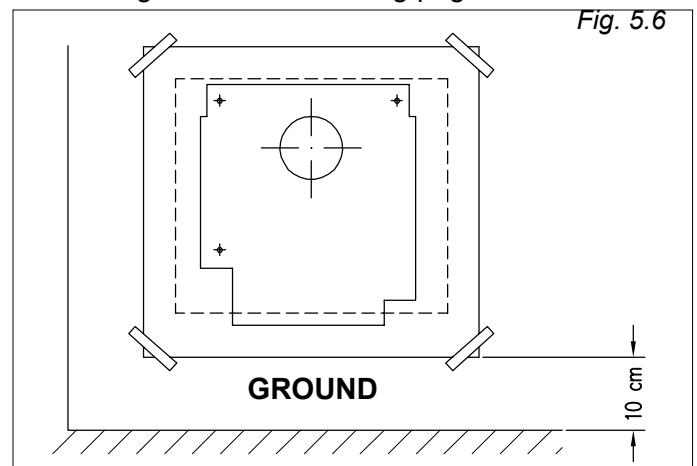

Fig. 5.6
1. Place the template on the wall and fix it with adhesive tape at a distance of minimum 10 cm from the floor perfectly in square (see fig. 5.6).
3. Place the template in square again and be careful when centring it with the hole for the exhaust, then make 4 holes of 8 mm in diameter and insert the supplied inserts (see fig. 5.6).